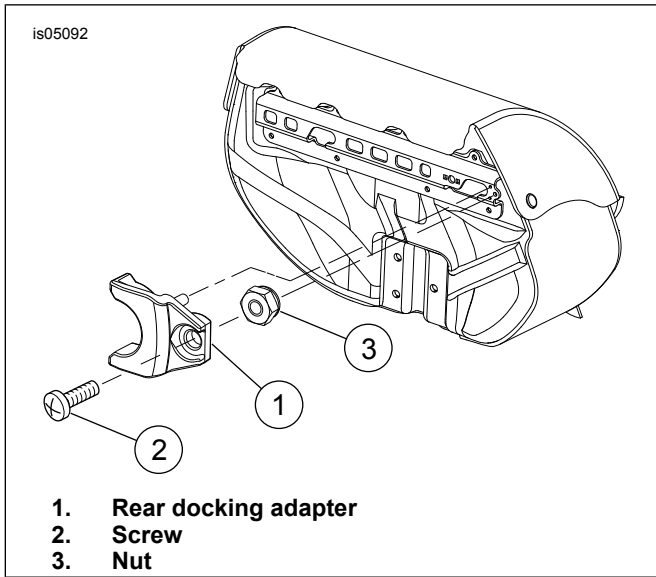

Figure 1. Install Rear Docking Adapter
1. See Figure 1. Insert rear docking adapter (1) into holes in saddlebag bracket and hold into place.
2. Install rear docking adapter using screw (2) and nut (3). Tighten snugly.